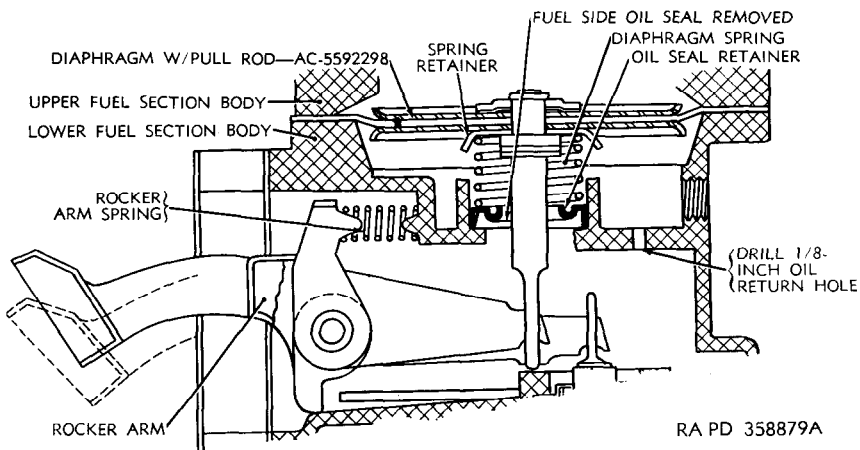

Figure 48. Sectional view of lower fuel section body of fuel pump showing oil return hole.
- (3) Remove the two screws securing the fuel and vacuum pump, rocker arm link spacer, and gaskets to the crankcase and remove the parts.
*b. Modification of Fuel Pump (fig. 48).* To minimize premature failures of fuel pumps caused by excessive pressures within the fuel pump and the trapped oil in the lower section of the upper body, modify the pump as described in (1) through (8) below.
- (1) Remove machine screws and lockwashers which secure the flanges of the upper and lower section bodies.
- (2) Remove upper fuel section body, diaphragm with pull rod, spring retainer, and diaphragm spring.
- (3) Using a hook-shaped tool, remove oil seal retainer and oil seal. Exercise care during this operation to prevent damage to oil seal retainer.
- (4) Drill a  $\frac{1}{8}$ -inch hole in deck of body (fig. 48) to act as an oil return and pressure relief hole. Metal clips resulting from the drilling should be blown from the fuel pump with compressed air.
- (5) Install new oil seal and original retainer when using fuel pump repair kit G740-7375384; if fuel pump repair kit G758-8329981 is used, install oil seal retainer G758-8329706.
- (6) Install diaphragm spring and spring retainer.
- (7) Install new diaphragm with pull rod after soaking it in clean kerosene. While holding the diaphragm flange in the upward position, insert the pull rod through the spring retainer, spring, and oil seal retainer in the lower fuel section body. The flat of the pull rod must be at right angles to the fuel link. Hook the pull rod to the short (outer) fuel link.
- (8) Aline the upper fuel section body on the lower fuel section body in accordance with marks scribed in (1) above. Push on rocker arm until diaphragm is flat across body flange. Install original screws and lockwashers until screws just engage lockwashers. Push rocker arm in a full stroke and tighten screws securely.
(fig. 48)
- (a) Bend fuel and vent lines upward, at fuel tank, so that vent line will locate above the fuel line (fig. 48).
- (1) *Removal.* Unscrew the nuts (W and Y) on the ends of the fuel line (X), from the elbow on the pump, and the elbow on the carburetor assembly, and remove the line.
- (2) *Installation.* Position the fuel line (X) between the fuel and vacuum pump and the carburetor assembly. Screw the nuts (W and Y) on the ends of the line into the elbow on the carburetor and the elbow on the fuel and vacuum pump respectively.